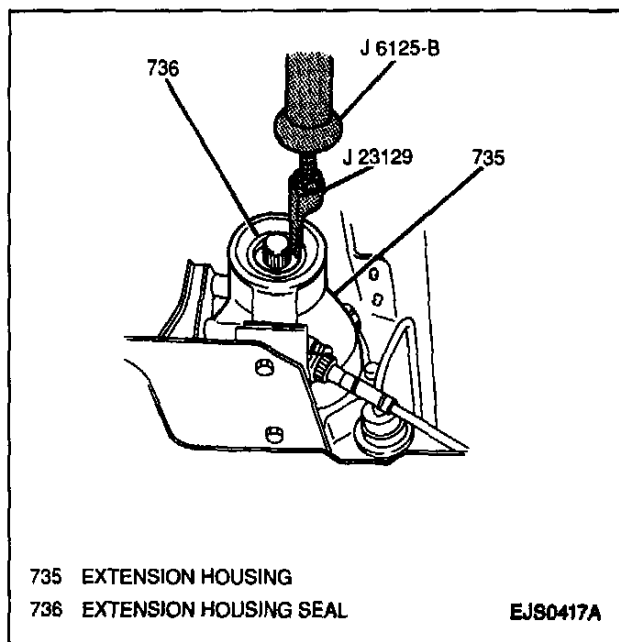

Figure 50—Removing Extension Housing Seal (3L30, 3-Speed)
Figures 50 and 51
4. Extension housing seal from extension housing using a J 23129 with a J 6125-B (Figure 50).